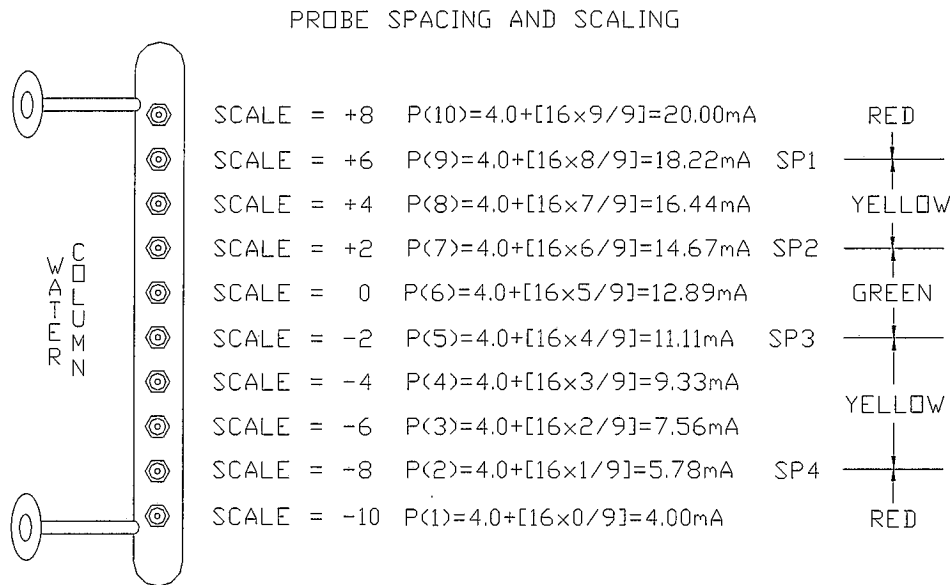

Figure 4
- 6.) Using the RECID-71 Input Exerciser, sequentially energize the balance of the input/relays and calibrate the 4-20 mA output per the systems number of inputs and scaling, adjusting the appropriate Px potentiometer. The equation below can be used to figure the 4-20 mA output for the appropriate sequenced probe/relay input. Refer to Figure 4.